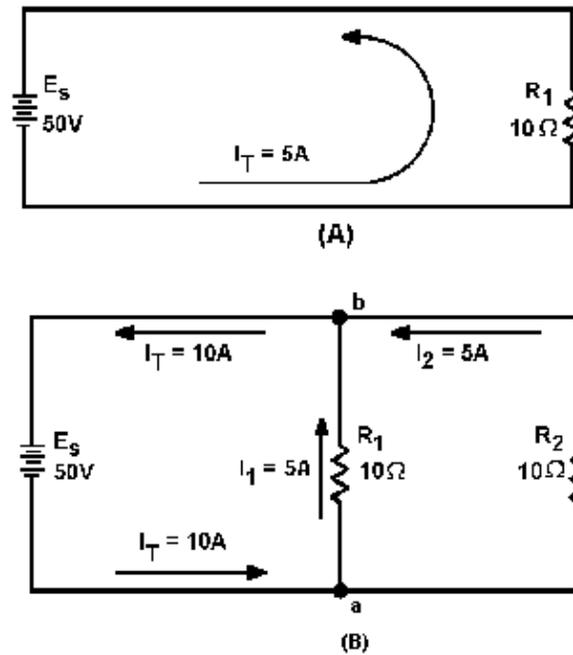
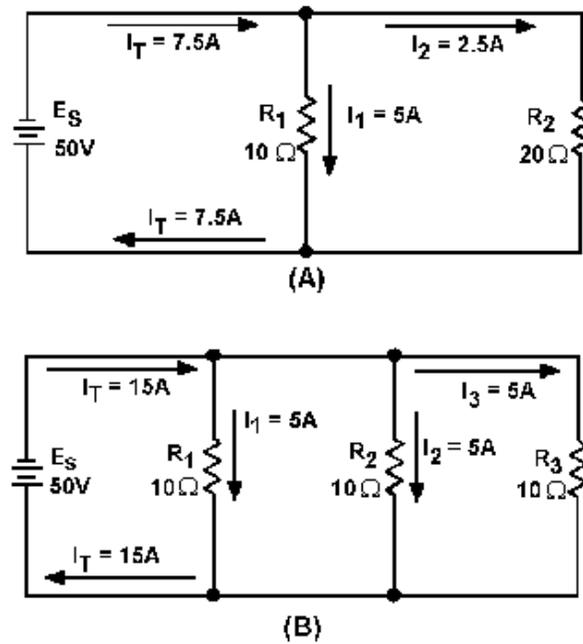

Figure 3-40.—Analysis of current in parallel circuit.
Figure 3-41.—Current behavior in parallel circuits.
Part (A) of figure 3-40 shows a basic series circuit. Here, the total current must pass through the single resistor. The amount of current can be determined.
Part (B) of figure 3-40 shows the same resistor (R_1) with a second resistor (R_2) of equal value connected in parallel across the voltage source. When Ohm's law is applied, the current flow through each resistor is found to be the same as the current through the single resistor in part (A).
The total current of 10 amperes, as illustrated in figure 3-40(B), leaves the negative terminal of the battery and flows to point a. Since point a is a connecting point for the two resistors, it is called a **JUNCTION**. At junction a, the total current divides into two currents of 5 amperes each. These two currents flow through their respective resistors and rejoin at junction b. The total current then flows from junction b back to the positive terminal of the source. The source supplies a total current of 10 amperes and each of the two equal resistors carries one-half the total current.
Each individual current path in the circuit of figure 3-40(B) is referred to as a **BRANCH**. Each branch carries a current that is a portion of the total current. Two or more branches form a **NETWORK**.
Compare part (A) of figure 3-41 with part (B) of the circuit in figure 3-40. Notice that doubling the value of the second branch resistor (R_2) has no effect on the current in the first branch (I_{R1}), but does reduce the second branch current (I_{R2}) to one-half its original value. The total circuit current drops to a value equal to the sum of the branch currents. These facts are verified by the following equations.
The amount of current flow in the branch circuits and the total current in the circuit shown in figure 3-41(B) are determined by the following computations.
Notice that the sum of the ohmic values in each circuit shown in figure 3-41 is equal (30 ohms), and that the applied voltage is the same (50 volts). However, the total current in 3-41(B) (15 amps) is twice the amount in 3-41(A) (7.5 amps). It is apparent, therefore, that the manner in which resistors are connected in a circuit, as well as their actual ohmic values, affect the total current.